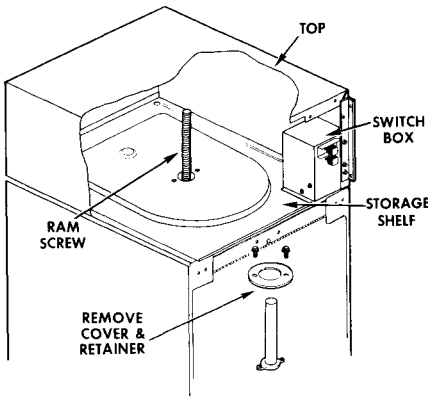

Figure 8 - Exposing Ram Screw.
1. With the ram in the top position, open the storage door or remove the escutcheon panel on the built-in model. Remove the cover from the ram screws. See figure 8.